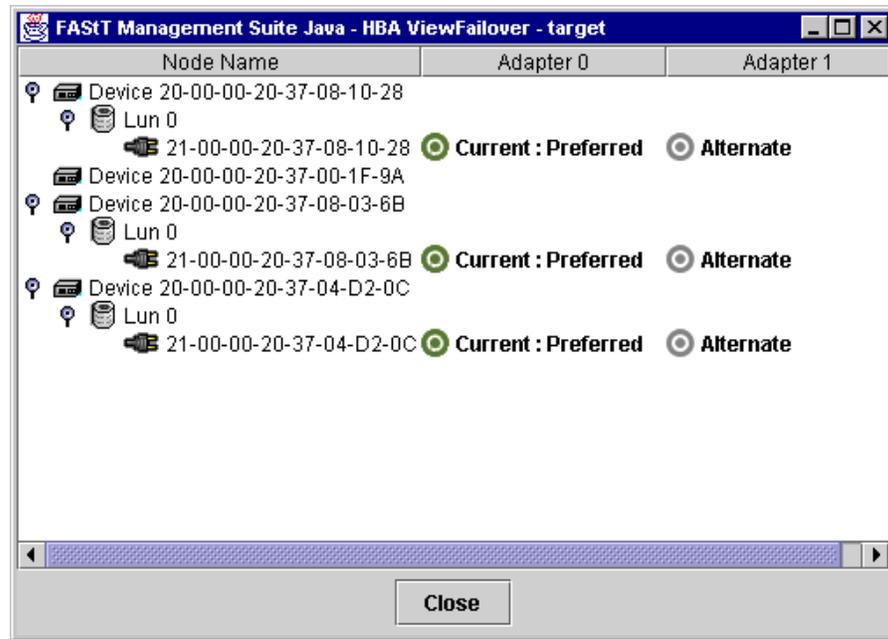

Figure 50. HBA ViewFailover window
- Right-click the host in the HBA tree. From the pop-up menu, click **Current Path**. The HBA ViewFailover window is displayed (see Figure 50 on page 58).